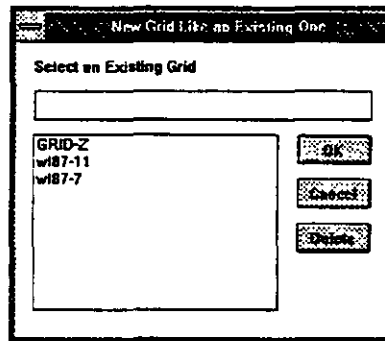
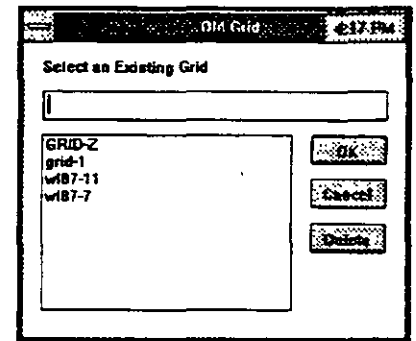

Figure 15-16
Figure 15-17
- 15.3.2. New Grid Like ...** When you select this option only the grid parameters as displayed in Figure 15-15 will be copied from the selected grid, not the "Z" values which are normally associated with each grid cell. Using this option you accept the same size, spacing and density of the grid model, and intend to use it for creating a grid model of another "Z" parameter. The dialogue box such as the one shown in Figure 15-16, offers you a list of all available grids.
- 15.3.3. Old Grid** You will select an existing grid to make contours or to add color regions to your map. The dialogue box, such as the one displayed in Figure 15-17; will display the list of available grids.
By using this command to give your grid a different name from what it had, you can save the current (changed) version without disturbing the original version. The name should be different from any other file; otherwise you will replace the file that already has that name. This option displays the Filename dialogue box similar to Figure 15-16 or Figure 15-17. Enter a name and path and click on OK, and GWW creates another internal file with that name. When you resume working, you are working in the new grid.